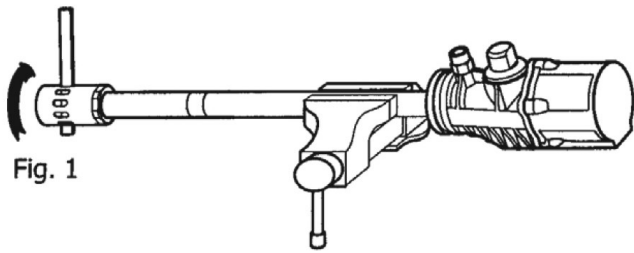

Fig. 1
2. UNSCREW THE INTAKE FILTER TUBE (42) FROM THE INTAKE FILTER HEAD (39) (FIG. 1).